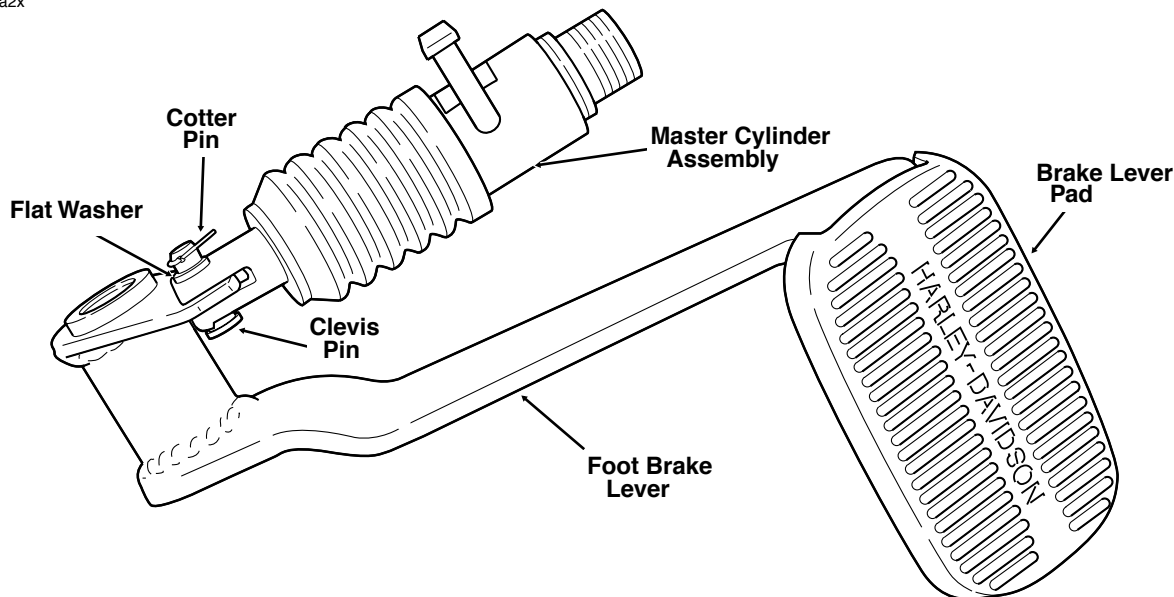

Figure 1. Rear Foot Brake Lever - FLT Models
2. See Figure 1. Remove cotter pin and flat washer from clevis pin. Pry out clevis pin using a 12 in. pry bar (Snap On Part No. SPB12) using a sharp tap from a hammer if required. Remove brake pedal from master cylinder assembly.
3. Install flat washer and **new** cotter pin to clevis pin using a needle nose pliers. Bend cotter pin to secure in place. See Figure 1.